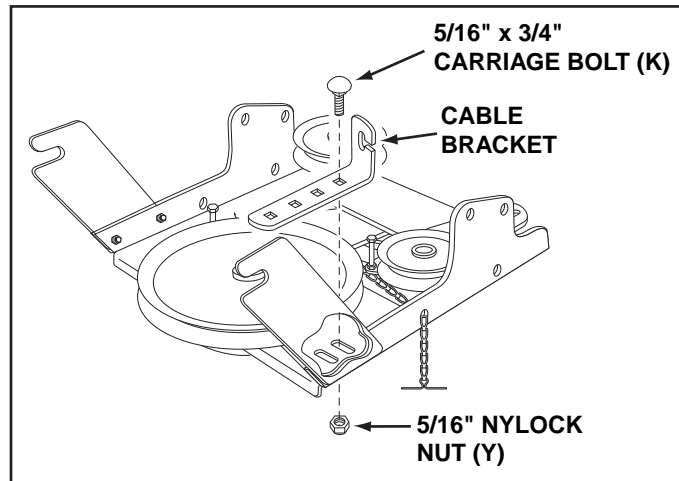

FIGURE 9
STEP 9: (SEE FIGURE 9)
- Attach the cable bracket to the slot shown in the clutch/idler assembly using a 5/16" x 3/4" carriage bolt (K) and a 5/16" nylock nut (Y). Place the bolt in the front hole of the bracket and in the end of the slot closest to the pulley. **Do not tighten yet.**